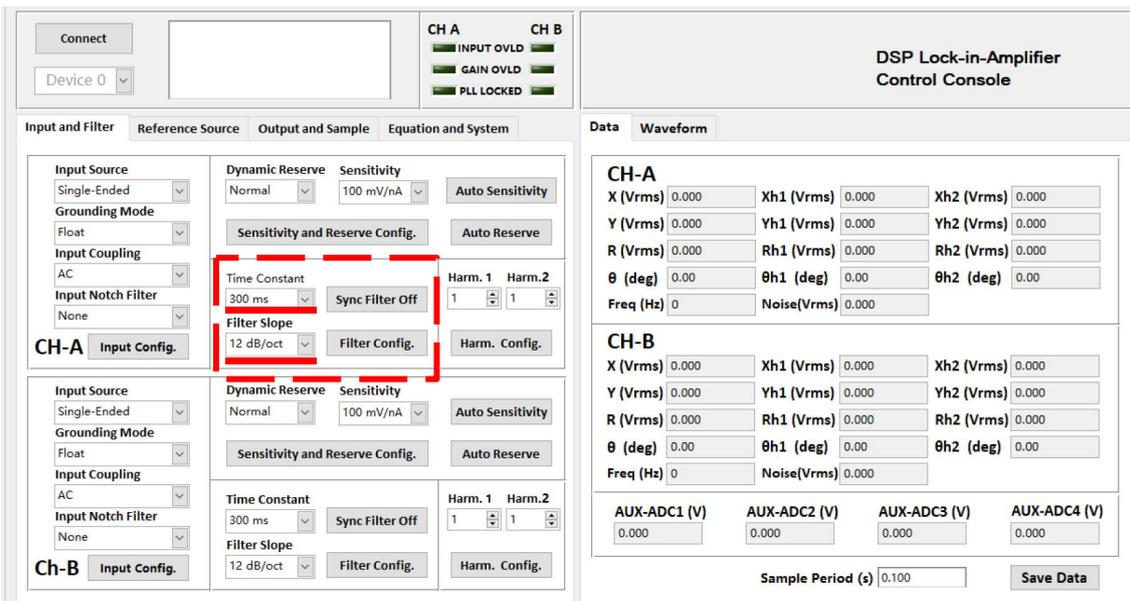

Fig.74 Filter Configuration
2. As shown in Fig.74, select suitable options for 'Time Constant' and 'Filter Slope' as required. Leave other options as initial state for now. Click the button **Filter Config.** to finish the configurations.
3. Select suitable options as required in tab page 'Reference Source Configuration' such as 'Reference Source', 'External Ref Trigger', 'Phase' with other options in default, as shown in Fig.74. Click the button **Reference Config.** to finish the configurations.